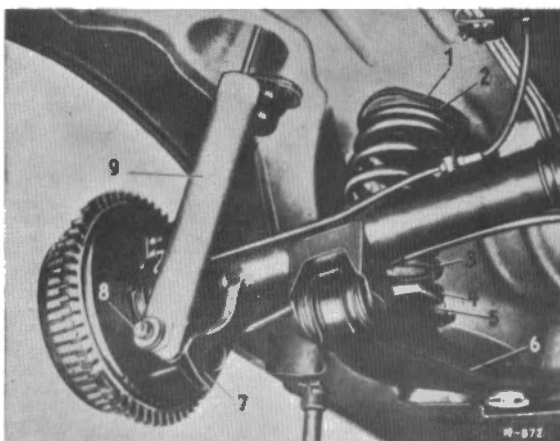

Fig. 35-1/7
14. From the trunk compartment unscrew the hexagon screw (1) on the rubber mounting (3) of the rear axle suspension and remove with the lock washer and the upper tension disk (2) (Fig. 35-1/8).